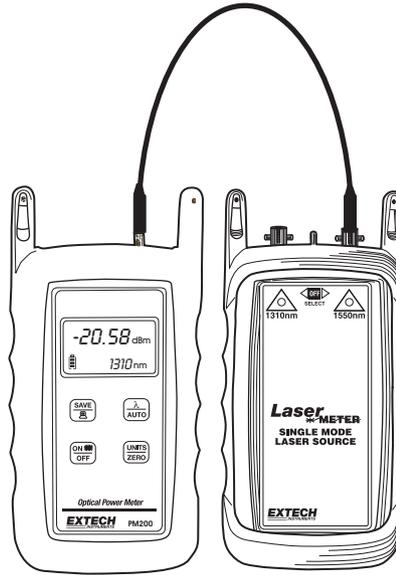

Figure 2
- d) Set the units to dBm. The resultant reading is the output power. (The example in Figure 2 shows an optical output power of -20.58 dBm).
- d) Check to make sure the power level displayed on the PM200 is approximately equal to the calibrated power level of the light source (see Figure 2 on the previous page). If it is good, then remove it from the PM200 and light source and set it aside. This will be the reference patch cord for the meter side.